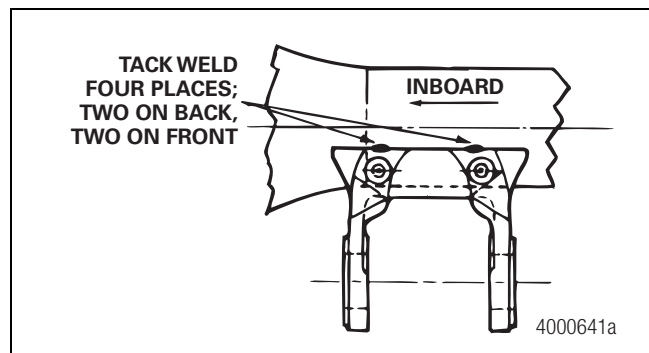

Figure 3.22
3. Tighten the set screws to 8-20 lb-ft (11-27 N·m) preload. ①
4. Tack weld each bracket as shown in Figure 3.22. Make two tack welds on the front of the axle housing and two tack welds on the back of the axle housing.